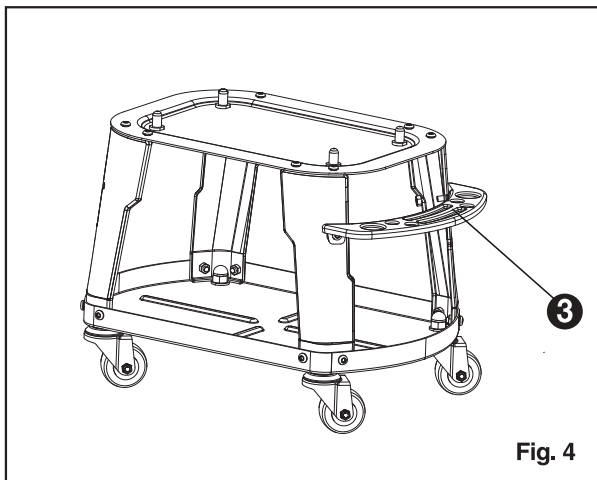

Fig. 4
Place the tool rack ③ on the side of the bracket as shown in fig. 4, and tighten the hex head cap screw ④, M6 lock nut ⑤ at both ends pass through the holes.